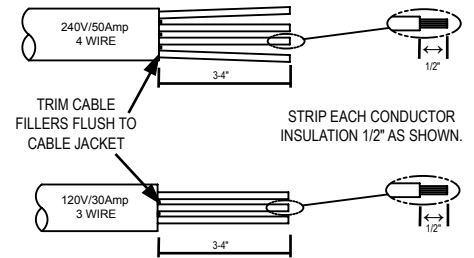

FIGURE 3
5. Cut power cord, strip back outer jacket as shown. (See Figure 3)